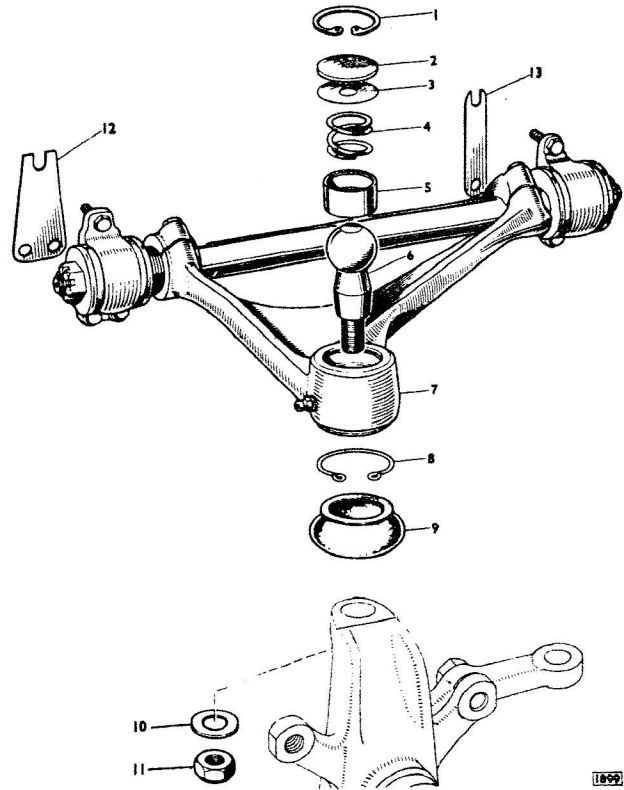

Fig. 4. The upper wishbone and ball pin.
To adjust the ball pin clearance to the correct figure, Fig. 4, remove the circlip (1), cover plate (2) and spring (4) from the ball joint. Clean thoroughly all the component parts.